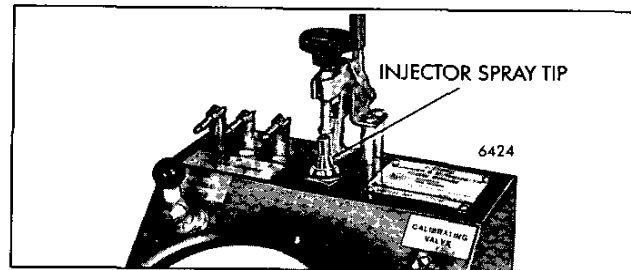

Fig. 14 – Spray Tip Installed in Tester
3. Remove the needle valve, if installed, and clamp the spray tip on the unit (Fig. 14).